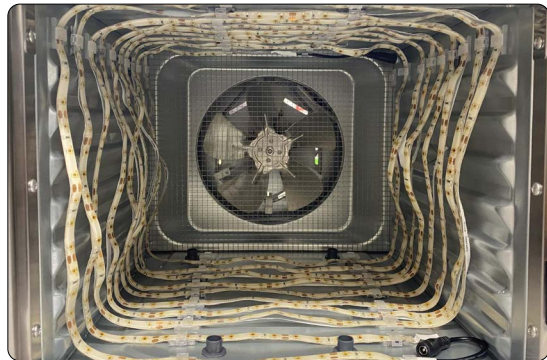

Figure 5. Standoffs placed on the bottom of the oven
6. Flip the oven back over and stick standoffs to the inside bottom of the oven using VHB as shown in Figure 5.